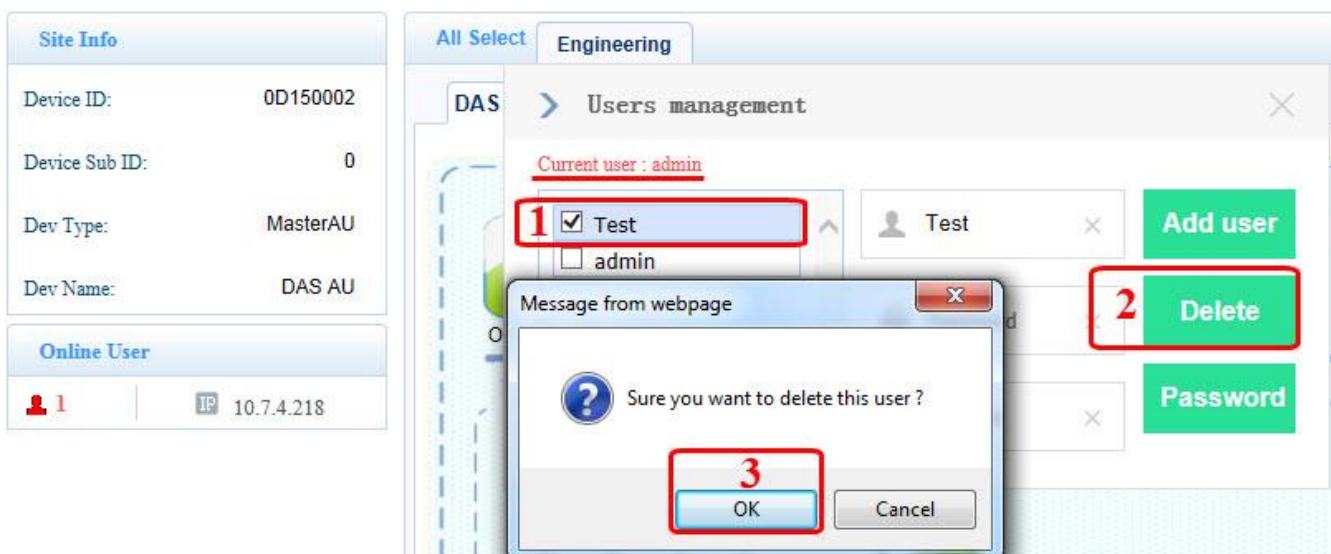

Figure 2-16 Delete User
- a) Choose the user need to delete. See 1 in the Figure 2-16.
- b) Click **Delete** button. See 2 in the Figure 2-16.
- c) Click **OK** button to confirm. See 3 in the Figure 2-16